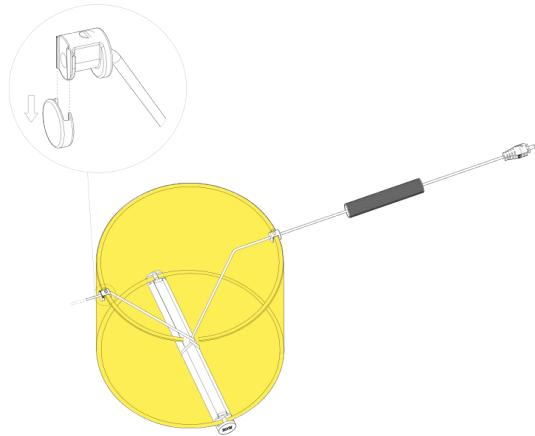

Fig.5
Unfasten the two diagonal screws (H) that fix the driver bracket (I) to the lamp body. (Fig.5)